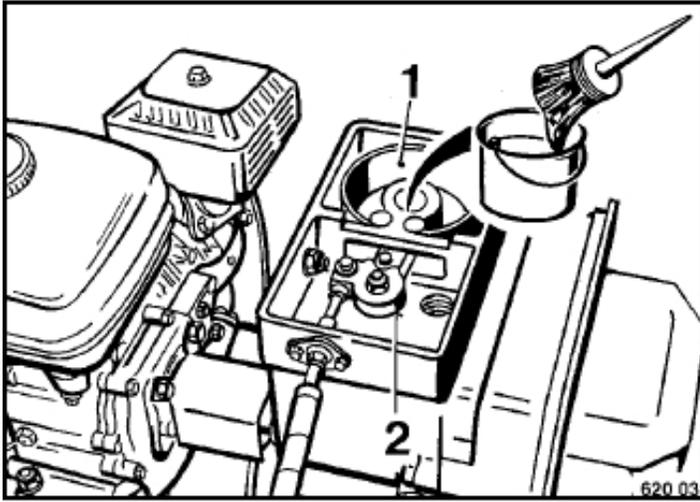

Fig. 34
- | Clean and grease the leaf spring 1 (Fig. 34) and the control 2.